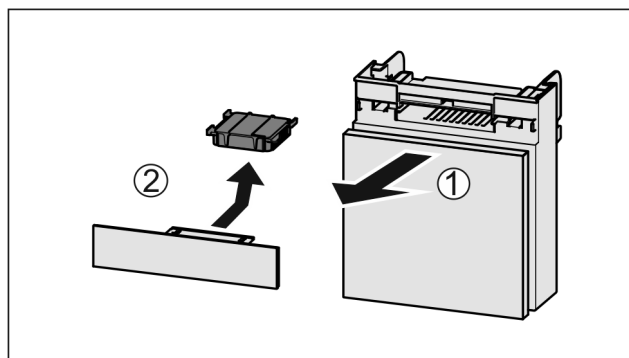

Fig. 214
- ▶ Pull out the compartment Fig. 214 (1).
- ▶ Remove the carbon filter Fig. 214 (2).